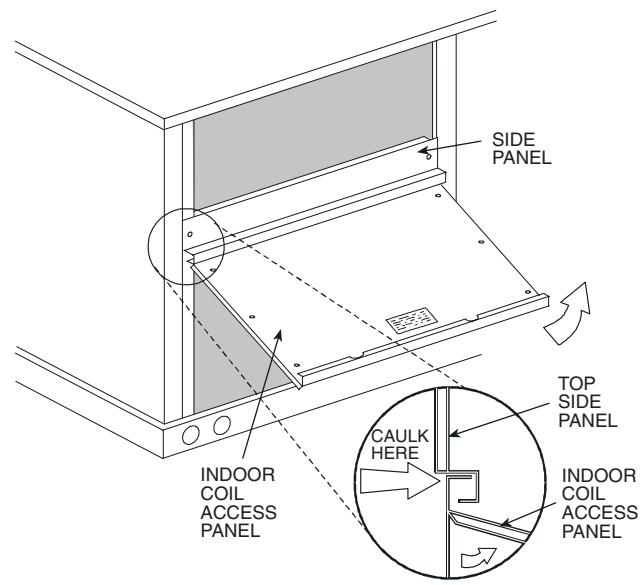

Fig. 20 — Indoor Coil Access Panel Relocation
3. The indoor coil access panel will be used as the top of the hood. Remove the screws along the sides and bottom of the indoor coil access panel. See Fig. 20.
8. Caulk the ends of the joint between the unit top panel and the hood top. See Fig. 20.